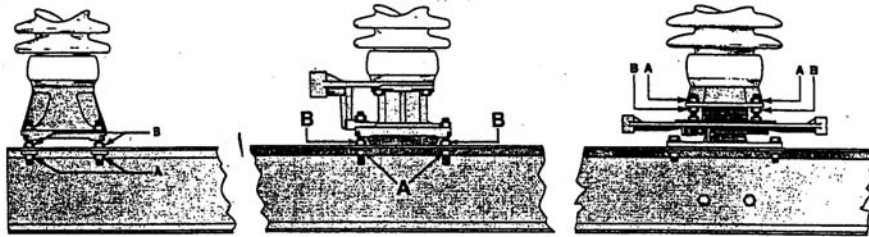

Figure 4
5. Use a plumb bob or level and true up the end insulators. It is important that they be perpendicular to the base in both planes. Use the jack screws to level these stacks. (Due to the overhang of the insulator skirts, it will be necessary to use a piece of scrap metal or wood to extend the plumb bob string beyond the skirts.) See figure 4 for jack screw adjustments procedure.